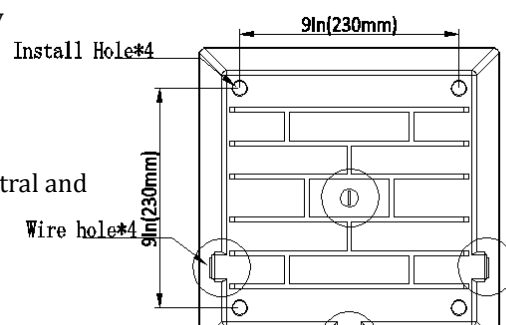

Figure 2
- The Mounting diagram to the Surface in this instructions may be used as a drill template see Figure 2.